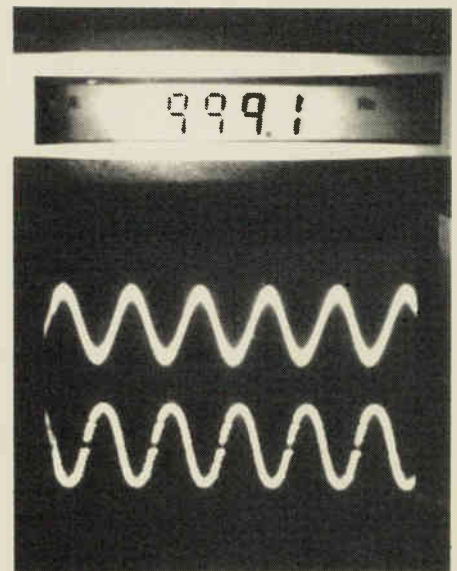

Fig. 1(b). An 8-bit unfiltered 1kHz sinewave tone. Note the bright spots and voltage level-jumping in the lower trace.
Fig. 1(a). The basic operation of analog to digital to analog audio sampling: (A) the analog input waveform, (B) the sampling intervals, (C) the digital code representing the sample amplitudes, (D) the code converted back to voltage levels, and (E) the output waveform after filtering.
one-third the sample rate, but only if the sound is a pure sinewave tone with very few overtones (harmonics) and high quality filters are used to remove the sample rate frequency. High quality filters are a must, as demonstrated in the Apple 8-bit sampling card photos (Figures 1-3). Notice that in the 1kHz sinewave of Fig. 1, there are a multitude of bright dots along the curves of the wave. This is the 30kHz sample rate modulation. It must be removed to faithfully reproduce the sine wave.